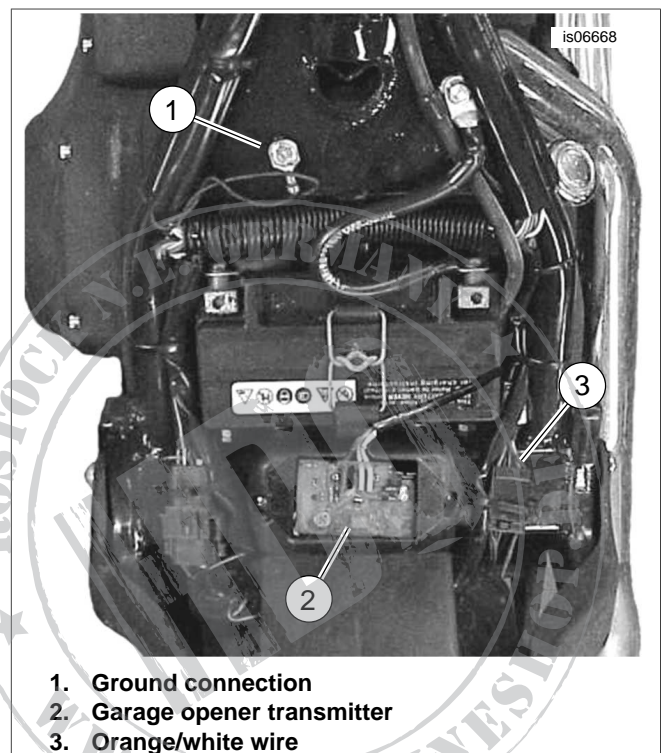

Figure 3. Transmitter Mounting (1999 and Earlier Softails)
2. See Figure 3. Remove the ground screw (1), located on the top of the frame, under the seat near the fuel tank.